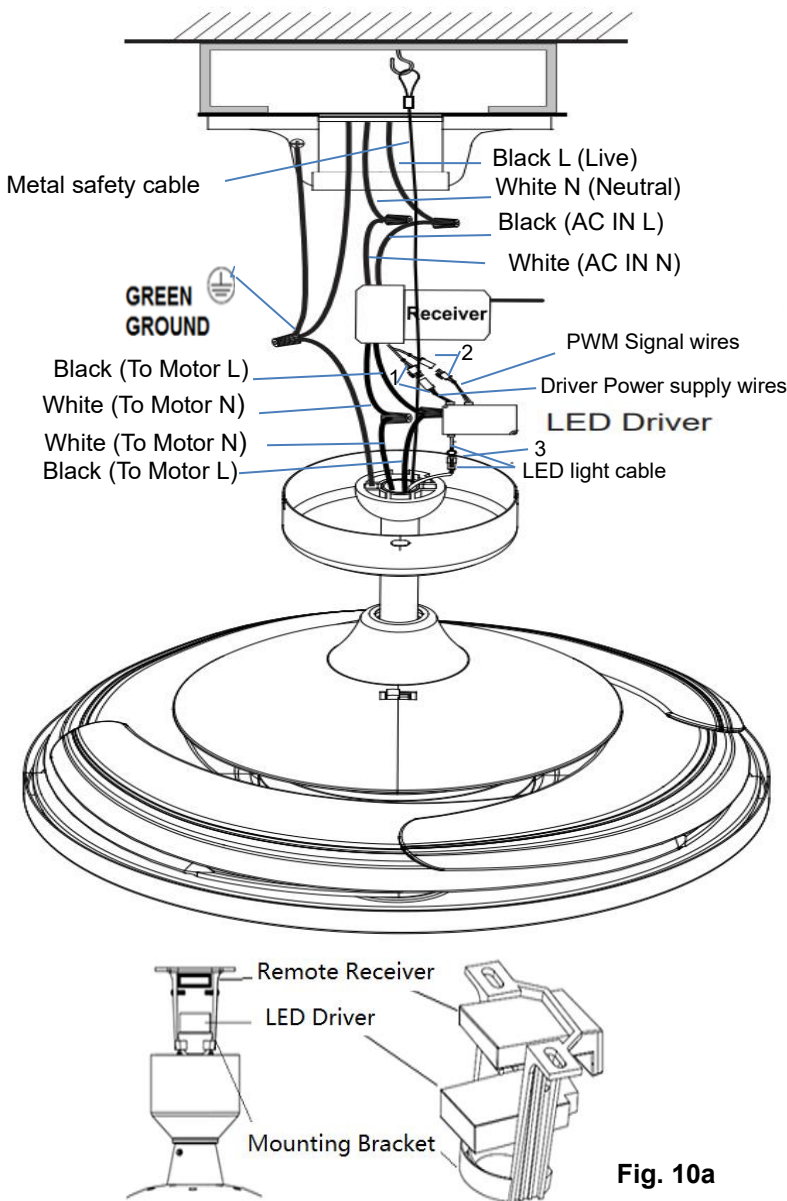
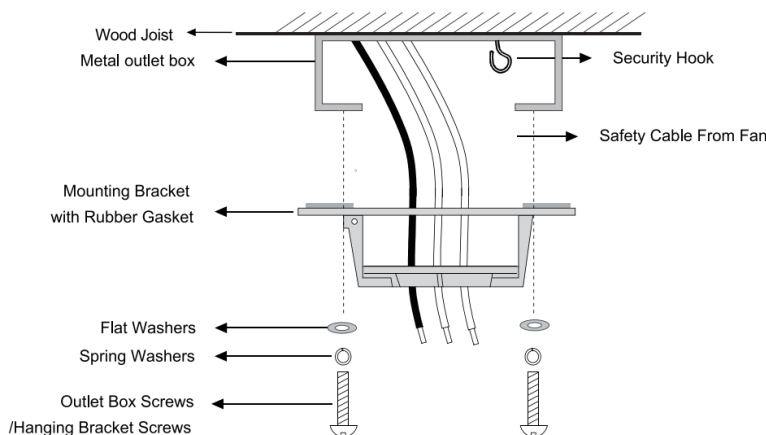

Fig. 10a
Fig. 10b
1. Connect the household live supply wire (black) to receiver input wire (black, AC IN L) as shown in **Fig. 10a**.
6. Connect the LED driver power input wires and remote receiver power output wires via the 2-port quick connectors (3);
7. connect the LED driver PWM signal input wires and remote receiver PWM signal output wires via the 3-port quick connectors (2)
8. also connect the LED driver output wires and LED light wires via the quick connectors (1)
9. pull the metal safety cable on the security hook, tight the safety cable (Fig.10a & Fig10b)